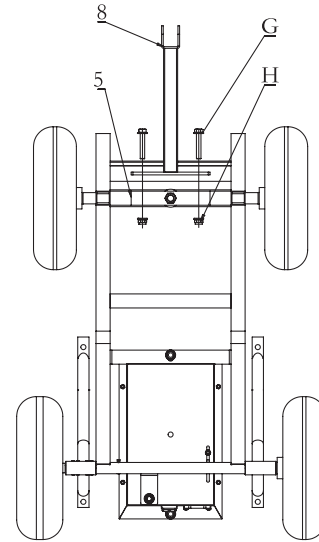

Fig.4
1. Align the hole of steering bracket connecting rod (8) with hole of steering bracket (5), use 2pcs M8x45 bolt (G) and 2pcs M8 nut (H) to tighten them. See Fig. 4.